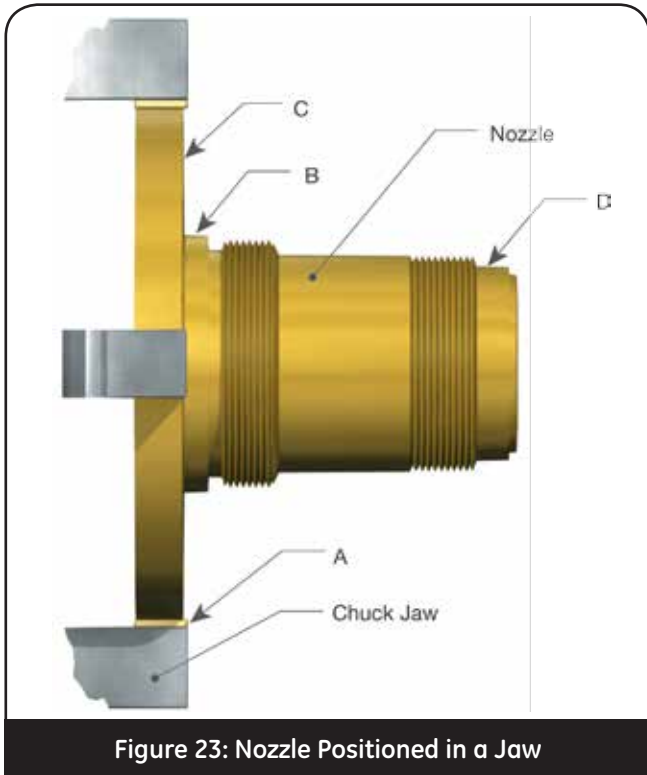

Figure 23: Nozzle Positioned in a Jaw
- a. Grip the nozzle in a four-jaw independent chuck (or collet, if appropriate), using a piece of soft material such as copper or fiber between the jaws and the nozzle as shown at A (Figure 23).
- b. True up the nozzle so that the surfaces marked B and C run true within .001" (0.03 mm) on indicator (Figure 23).